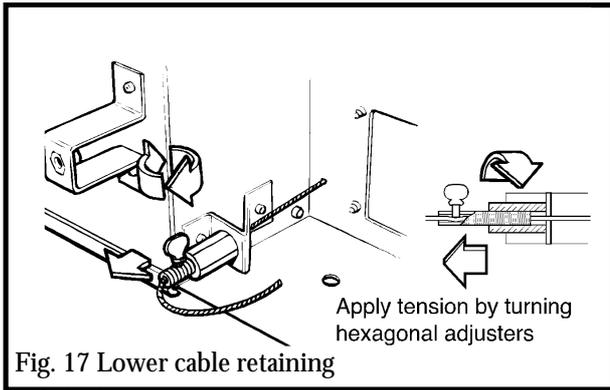

Fig. 17 Lower cable retaining
7.2.7 Fit a cable retainer over the bottom end of each cable (see figure 17).
7.2.8 Pull each cable taut. Push the cable retainers hard up against the “V” brackets. Tighten the screws in the retainers so that they clamp the cables in position. Apply tension to the cables by turning the hexagonal adjusters by hand (see figure 17).